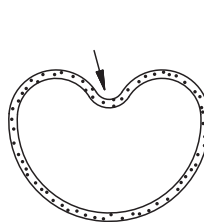

Fig. 1
- (1) Use lithium soap base multipurpose grease (cone penetration No.1 or No.2).
- (2) To fit a swivel seal, make it heart-shaped as shown in the figures at the right and press one end of it into the groove. Then, fit the whole swivel seal, pressing it with your finger (Figs. 1 and 2).